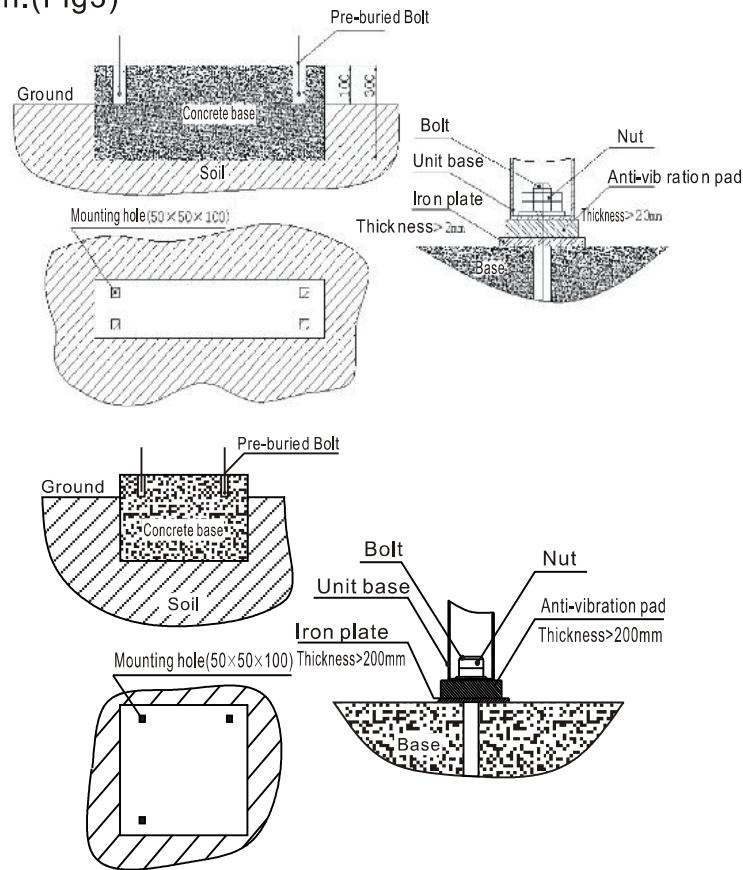

Fig 3
According to the position and installed dimension to make the base.(Fig 3)
- 8) To avoid units distortion and even rupture, which is caused in displacement of the unit run for a long time, you should take some measures to fix the unit at the restrict position.(Fig3)